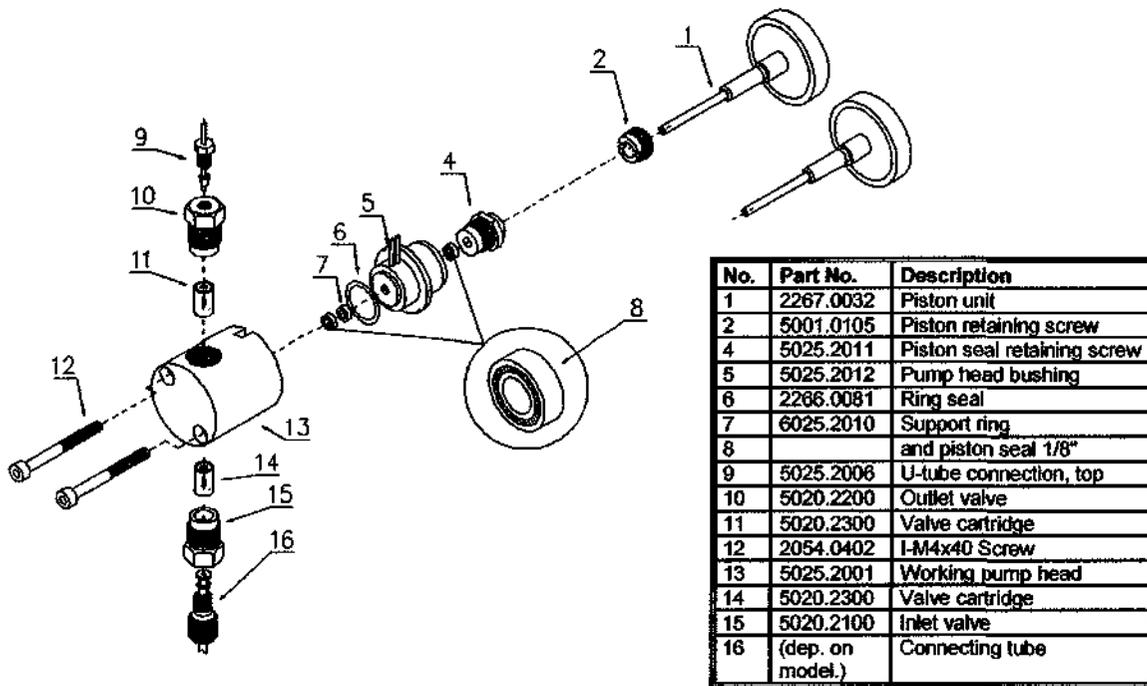

Fig. 18a : P 580 Working pump head
- Insert the new valve cartridge. Ensure that you insert the cartridge in the correct solvent flow direction, indicated by an arrow on the cartridge (see fig. 18a). Tighten the valve.
- Carefully draw the seal-rear flushing chamber (including the seal, see fig. 18a/b) from the piston.
Note: You can also remove the piston entirely to clean them. Use the slotted screwdriver contained in the to undo the piston retaining screw (see fig. 18a/b).
- To remove the piston seal in the rear flushing unit, you must first remove the retaining screw (no. 4 in the fig. 18a/b) on the rear of the pump head bushing.